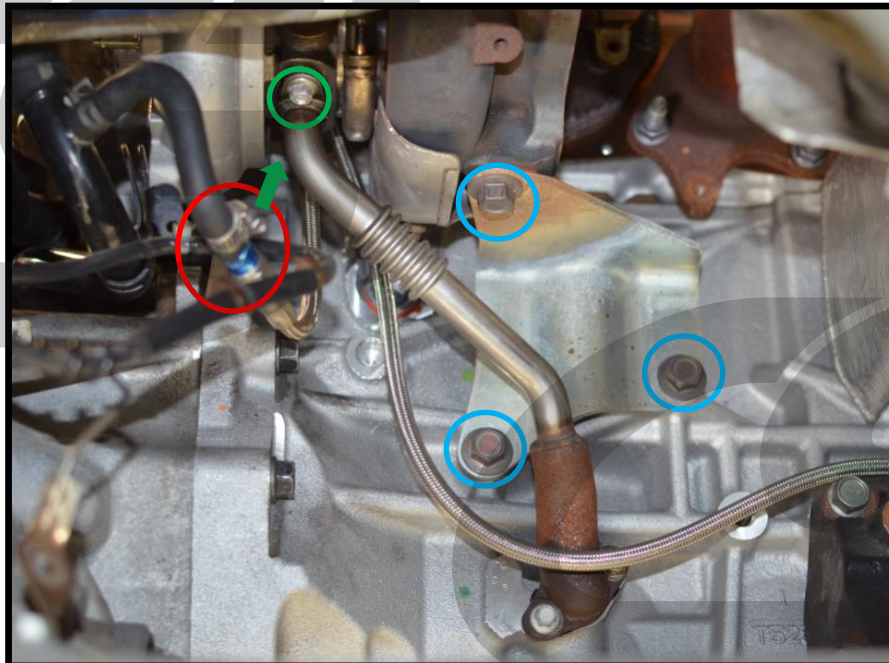

Figure 7a
Since the MS6 transfer case makes these components hard to see, Figure 7a below is from a Mazdaspeed 3. Most disassembly on this page will need to be done from above the engine by feel. All locations are identical to MS3.
- Remove the lower coolant line from the turbo, shown with the red circle in Figure 7a.
- Remove the two 8mm bolts holding the oil drain line to the turbocharger, shown with the green arrow & circle in Figure 7a.
- Remove the three 14mm bolts holding the turbo support bracket, circled in blue in Figure 7a.